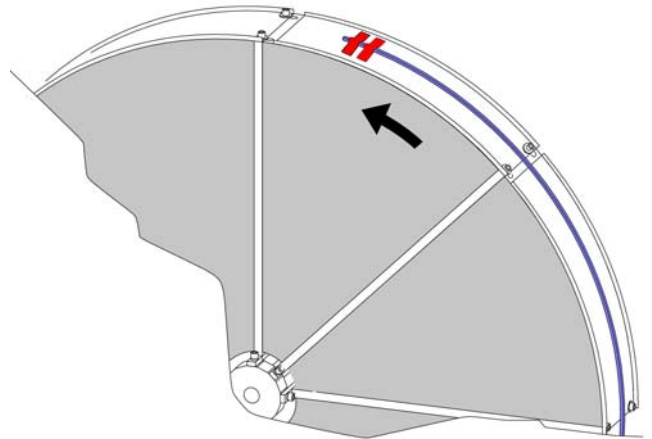

Figure 16
(The tension belt is laid around the rotor like the V-belt using adhesive tape, see Figure 16)
- Attach a belt end to the rotor with adhesive tape. (Figure 16)